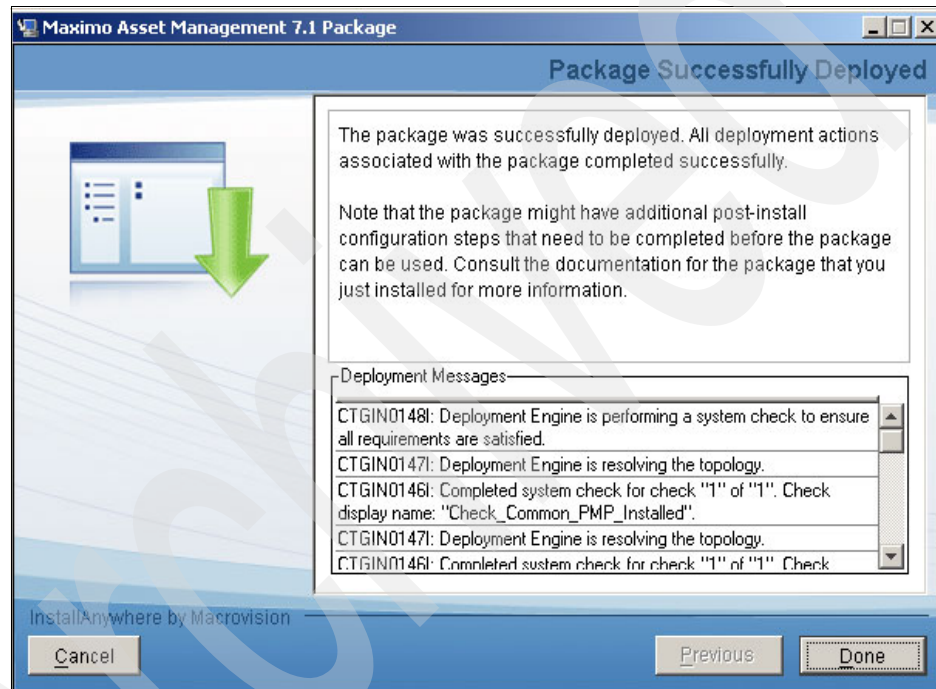

Figure 5-33 Package Successfully Deployed
7. When the installation has completed successfully, from the Package Successfully Deployed panel (see Figure 5-33), click **Done** to exit the Process Solution installation wizard.